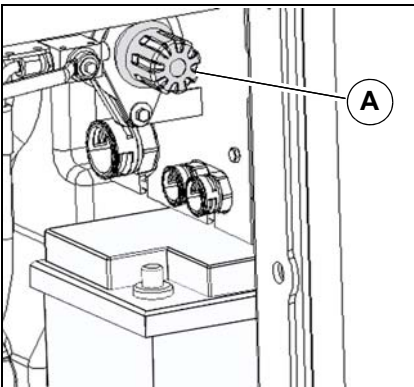

Fig. 90:
- Open the cover **Fig. 90-B** to switch on the voltage supply. Turn the battery isolating switch **Fig. 90-A** clockwise.
- Open the cover **Fig. 90-B** to switch off the voltage supply. Press the battery isolating switch **Fig. 90-A**.